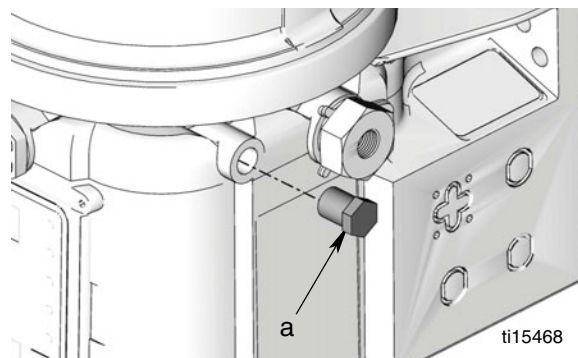

FIG. 2
3. Use a wrench to loosen plug (a) from return location. Remove plug from port (FIG. 2).